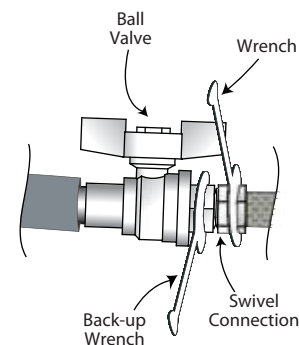

Figure 19
5. Use a wrench to tighten the swivel connections. Use a backup wrench to hold the riser ball valve stationary to prevent it from bending or twisting during installation as shown in Figure 19. Be careful to not over tighten swivel connections.